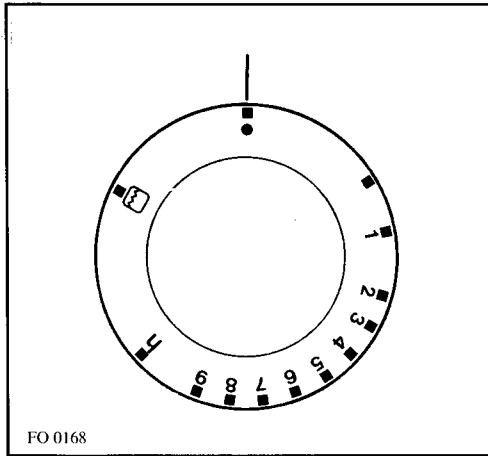

Fig. 2
2. Depress the oven control knob and turn it anti-clockwise to position (Fig. 2).